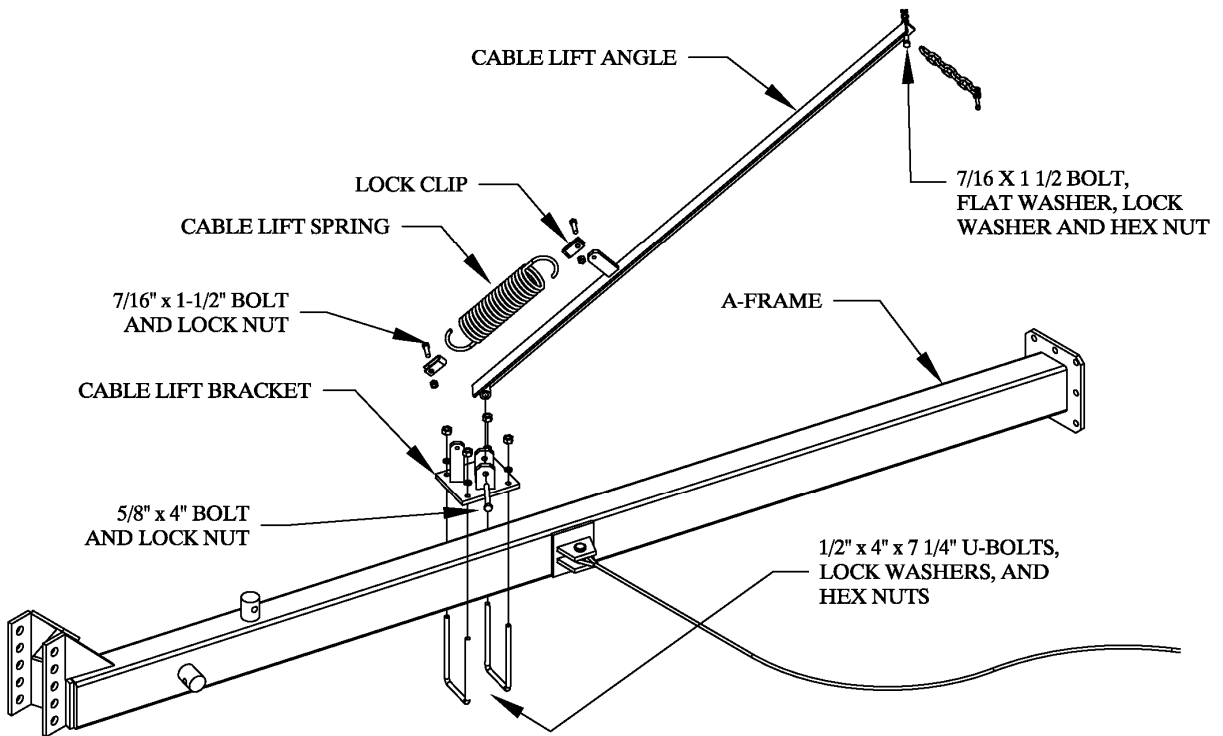

Figure 22
1. Bolt the cable lift bracket to the A-Frame just ahead of the wing cable bracket located on the side of the A-Frame. Refer to Figure 22. Use two $\frac{1}{2}$ " x 4" x $7\frac{1}{4}$ " U-bolts, lock washers, and hex nuts. Do *not* tighten yet. Note: There is a left hand and right hand assembly.